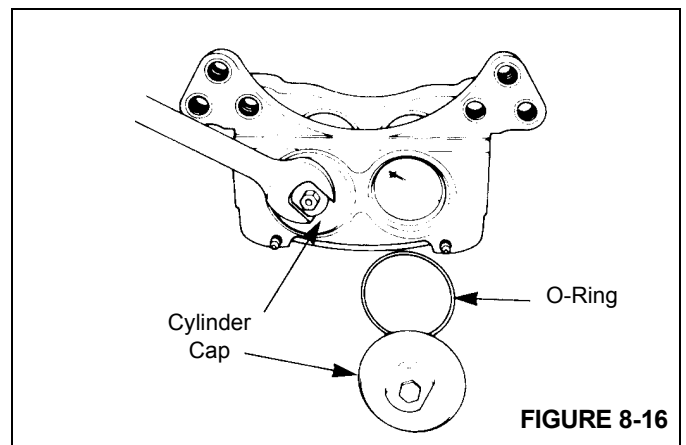

FIGURE 8-16
6. Remove the cylinder caps from the housing using an open end wrench. Remove and discard the O-rings (Figure 8-16).